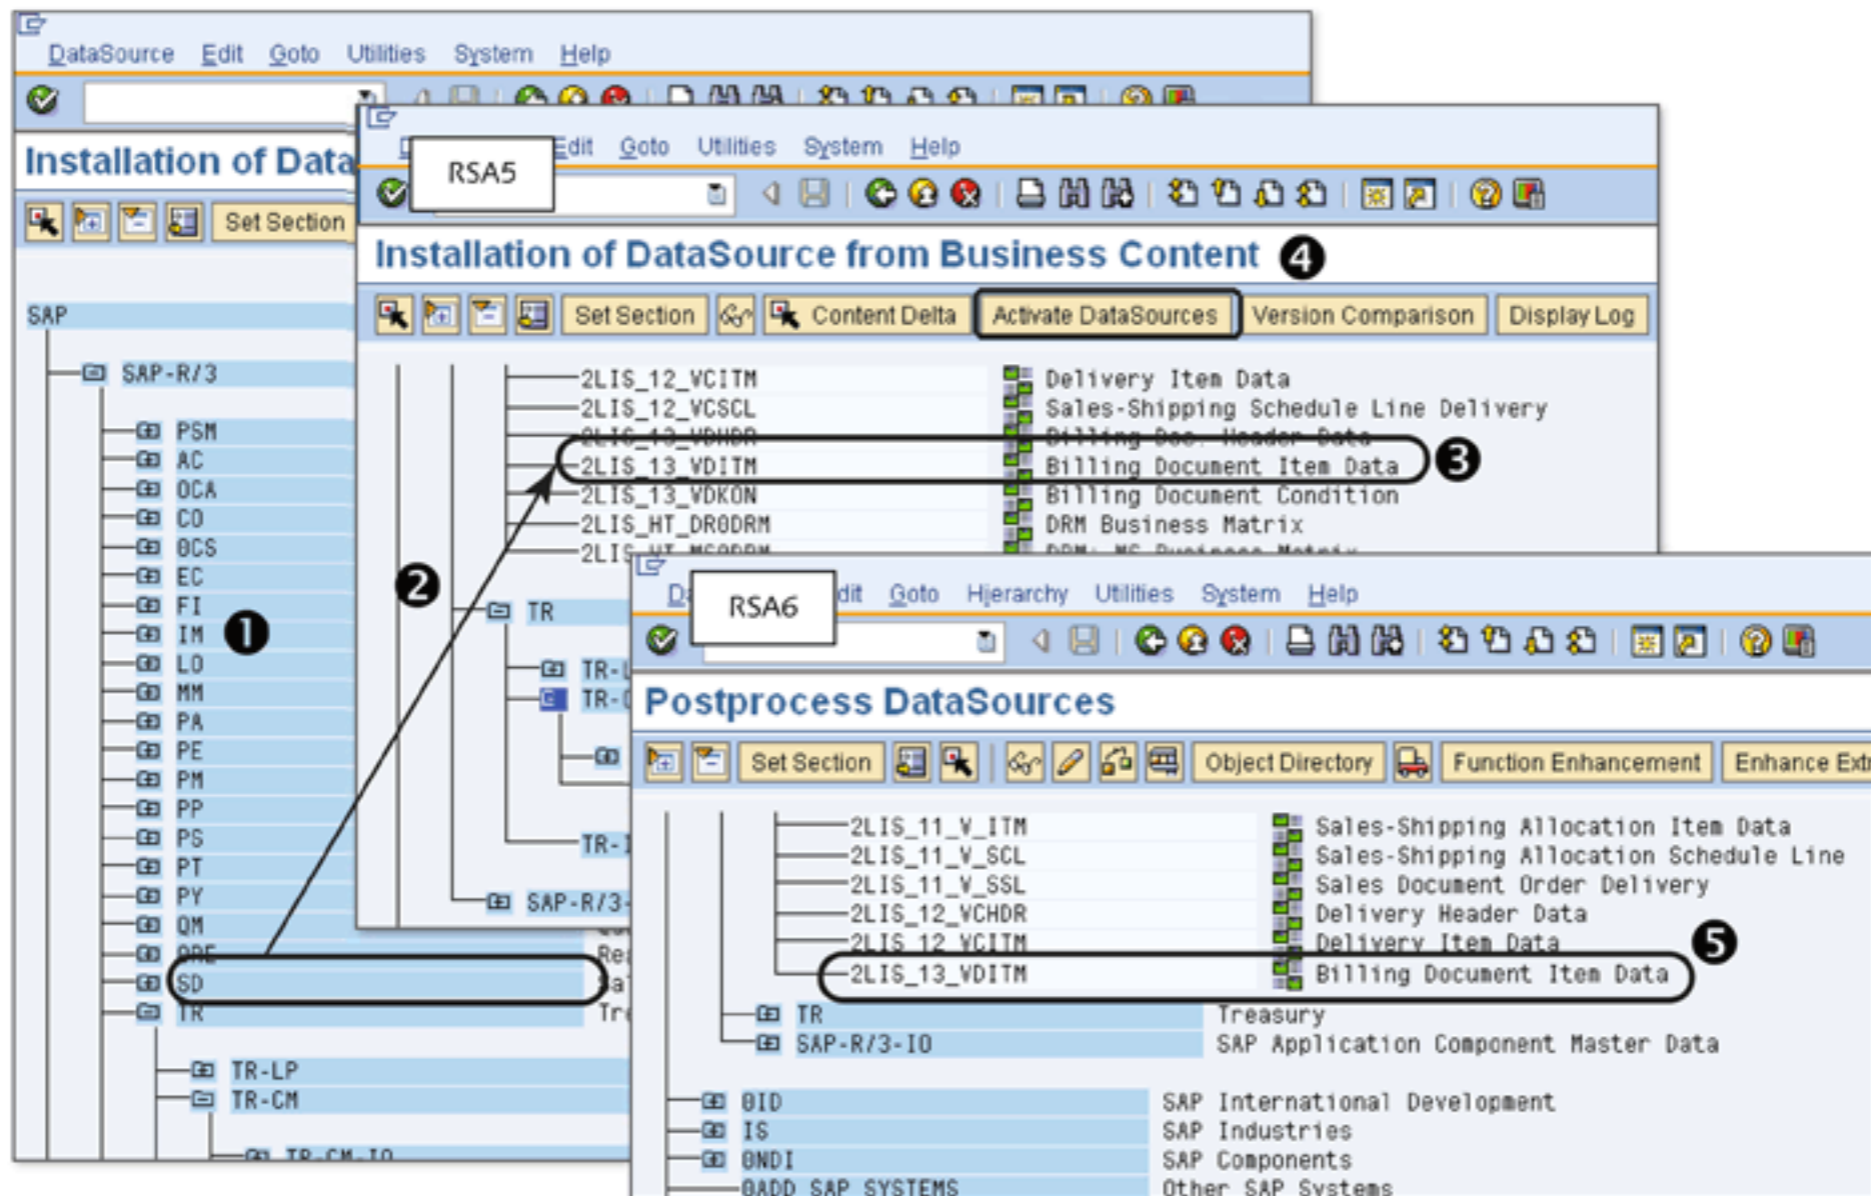

Figure 8.2 Activating Business Content DataSource
To activate a DataSource, use Transaction RSA5 in the SAP ERP source system. All of the Business Content DataSources (transaction as well as master data) are listed in a hierarchical manner (❶ of Figure 8.2) and grouped together based on the functional area or business process. These groups are called *application components*.